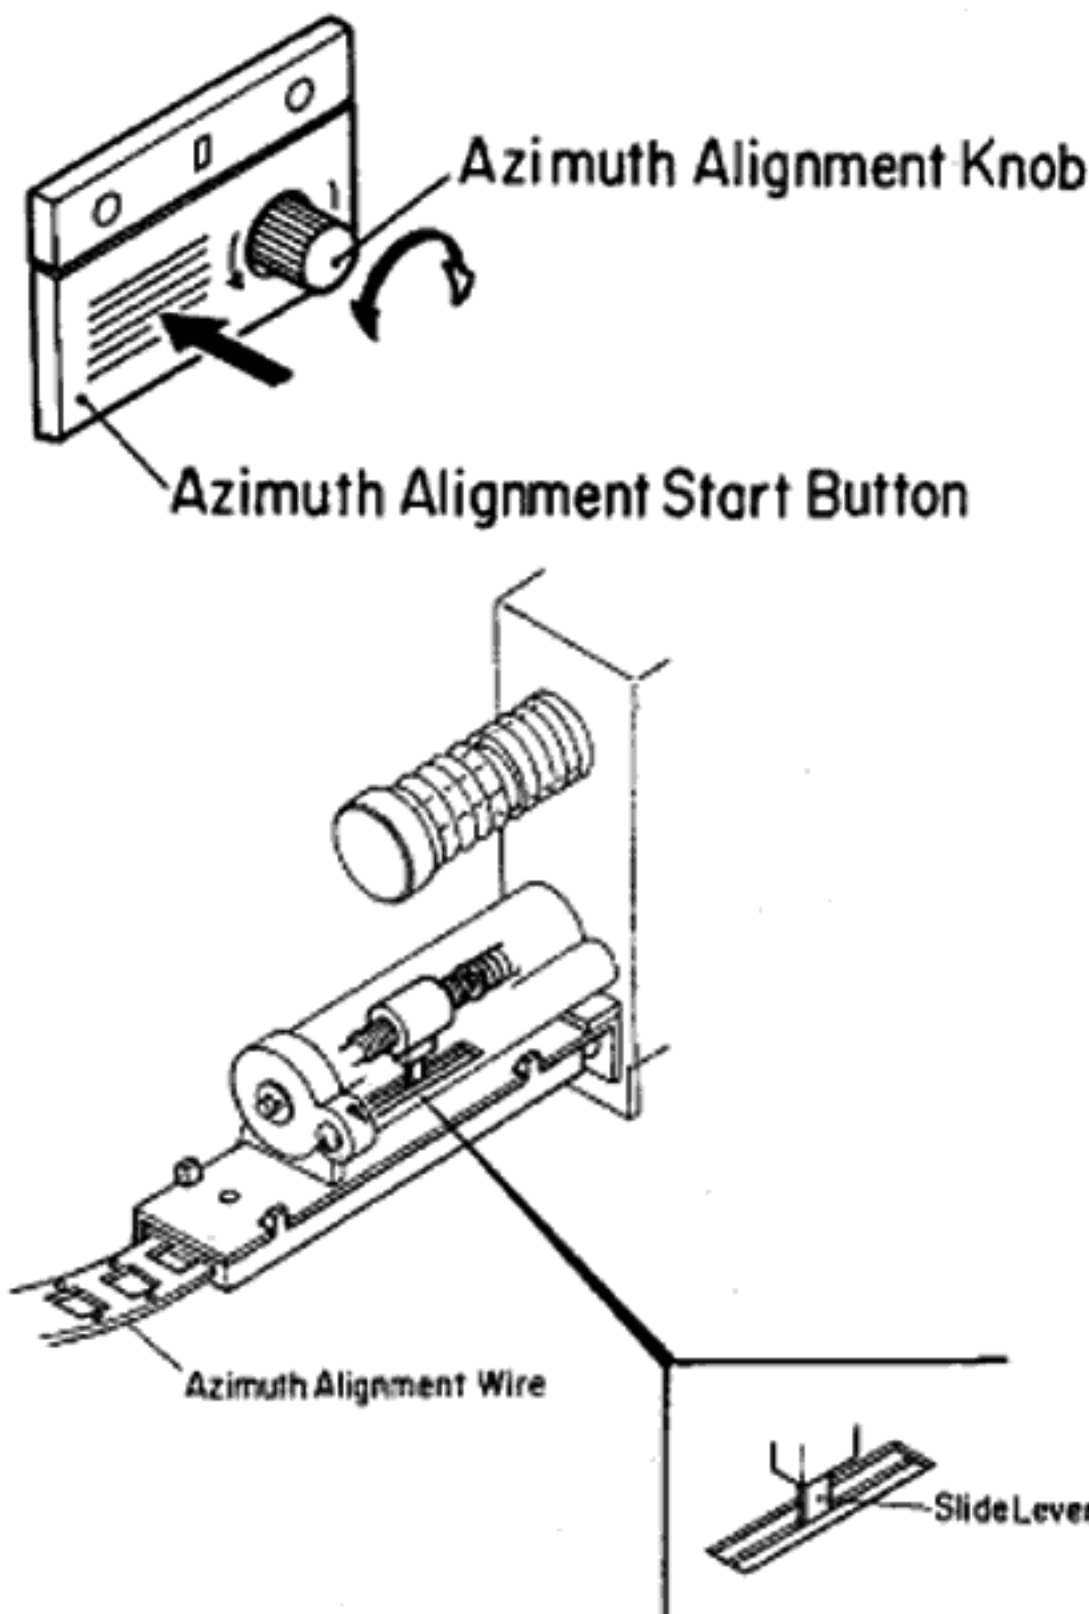

Fig. 4.18
- (c) Adjust the Azimuth Alignment Knob so that the Slide Lever of the Azimuth Alignment Wire is located at the center of the slit of the Azimuth Alignment Wire as shown in Fig. 4.18.